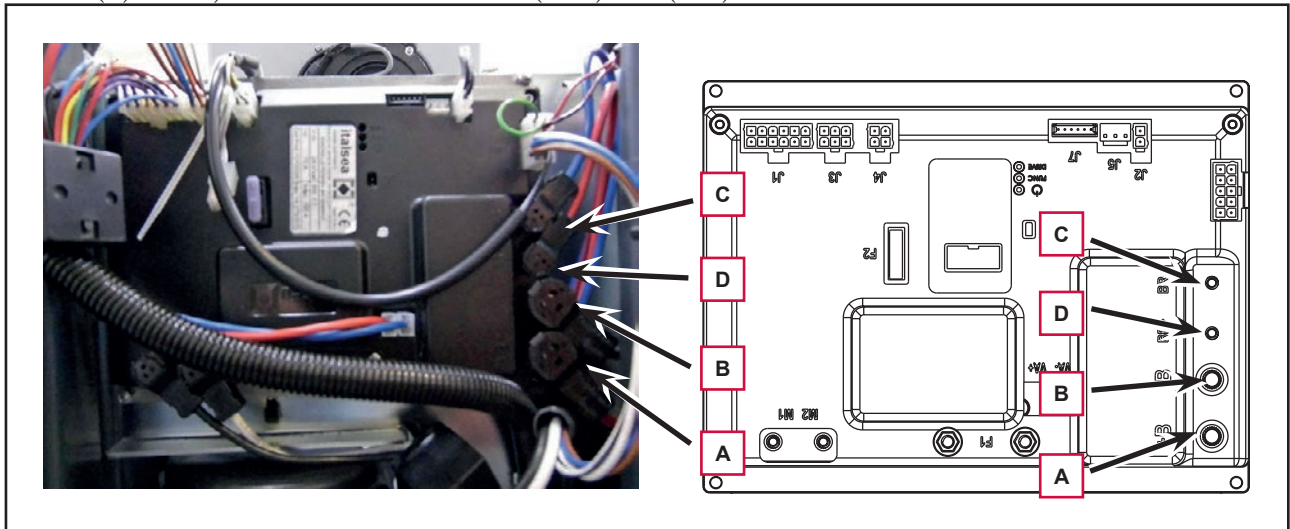

Figure 11
6. Disconnect the following connections (Figure 11):
- (A) and (B) Electronic board power supply connection (B+) and (B-).
- (C) and (D) Brush motor connection (BR+) and (BR-).